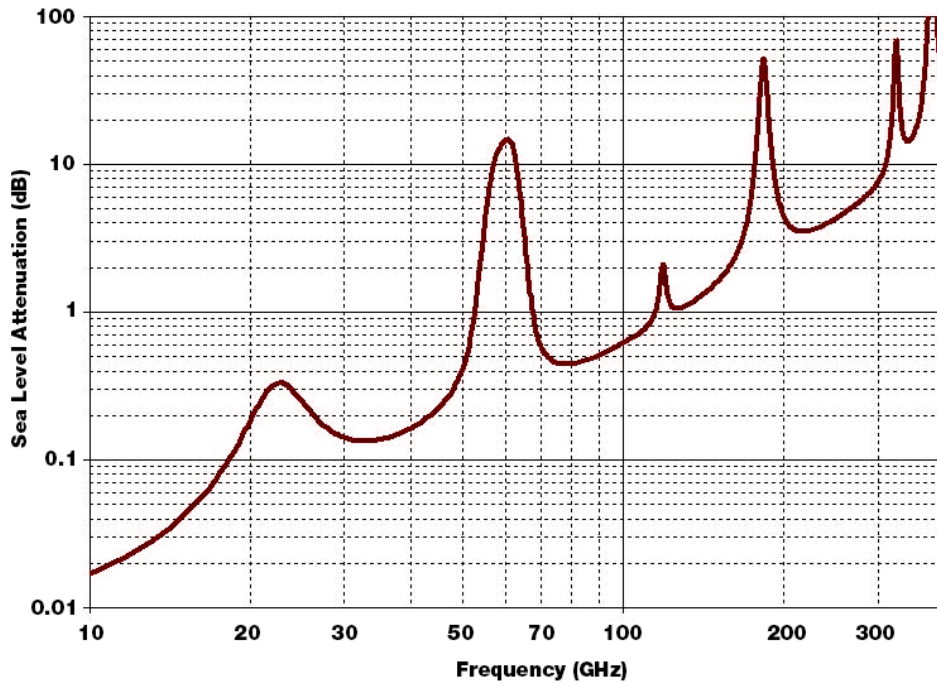
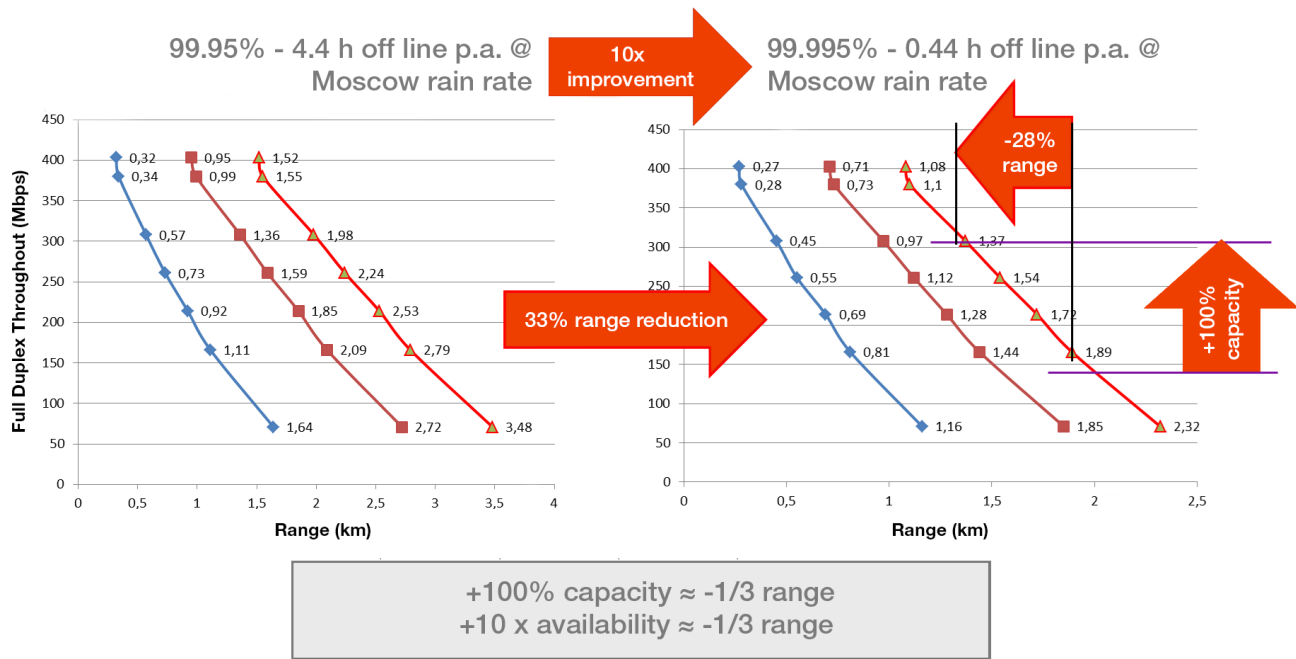

Figure 2: Sea-level atmospheric attenuation of radio waves in (dB/km) on the vertical axis as a function of frequency on the horizontal axis (GHz)
Figure 6: The effect of availability, antenna size and modulation (capacity) on range
1. Atmospheric attenuation. This is strongly frequency dependent as per Figure 2. Atmospheric attenuation is also dependent on air density and therefore a function of altitude (not shown in Figure 2). Atmospheric attenuation generally increases with increasing frequency, with absorption peaks at distinct frequencies like the oxygen absorption peak around 60 GHz, in the so-called V-band. It remains below 1 dB/km for most frequency bands below 100 GHz. Most terrestrial microwave radio links operate in the 3-86 GHz frequency range.
As can be inferred by comparing Figure 2 and Figure 3, medium rain (12.5 mm/h) generally causes more attenuation than atmospheric attenuation and heavy rain (25 mm/h) tends to cause roughly ten times more attenuation than the atmosphere. This is why rain is the most frequent cause of link degradation or complete, temporary link breakdown.
If we want our link to have a radio frequency availability of 99.999%⁵ or better – equivalent to less than 5 minutes of downtime per annum – then our link will have to cope with a rain intensity of 100 mm/h. If this link operates in the 10 GHz band, that implies (Figure 3) enduring a rain attenuation (fading) of 3 dB/km. Assuming a 10 km hop length, the fade margin (spare link budget) of the link ought to be at least 30 dB. Note that atmospheric attenuation in the 10 GHz band stands at less than 0.02 dB/km (Figure 2). If we were to use that 30 dB fade margin to *extend* the 10 km hop, at the expense of its availability, we could comfortably extend it *ten-fold* to 100 km, assuming sufficient ground clearance⁶. A 100 km link would incur 20 dB of additional free space loss plus 2 dB of additional atmospheric attenuation, and we have at least 30 dB of fade margin at our disposal.
Let's go through some examples now. Please refer to Figure 6. Each of the 2 graphs depicts three different configurations of the very same equipment. In this case, we're examining a narrowband (50 MHz channel) V-band link (56-58 GHz) deployed in Moscow, Russia.
As can be inferred from Figure 6, we *could* claim that this V-band link has a capacity of 400 Mbps and range of 3.5 km. Actually, as the link is a DragonWave link, it supports bulk compression (Bandwidth Accelerator). Therefore, provided that it's fed with compressible payload, we could claim a 1 Gbps capacity and a range of 3.5 km. Quite remarkable for a V-band link that operates inside the 60 GHz attenuation spike depicted in Figure 2.
The E-band in particular has attracted lots of attention lately, because a vast amount of spectrum is available, enabling throughputs in the 1-10 Gbps range, and because atmospheric attenuation (Figure 2) is modest compared to the V-band and even higher frequencies.